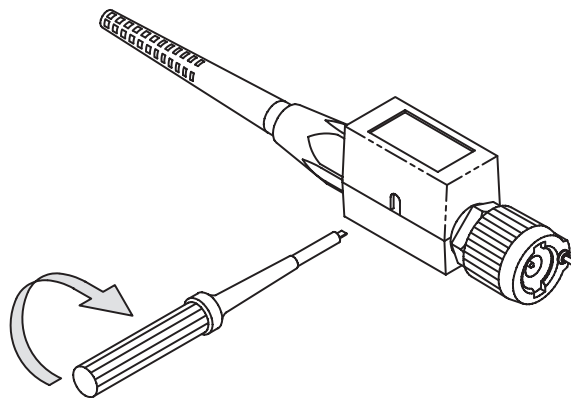

Figure 3: P6105A Probe Trimmer Adjustment
3. Adjust the trimmer in the probe (refer to Figure 3) until you see a flat-top square wave on the display.